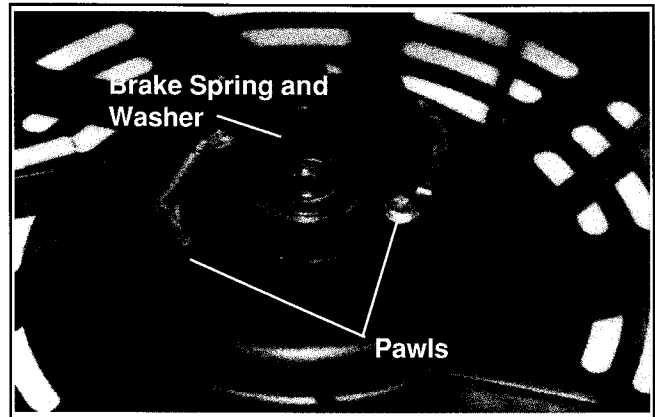

Figure 7-6. Brake Spring and Washer and Pawls.
3. Remove the brake spring and brake washer. See Figure 7-6.